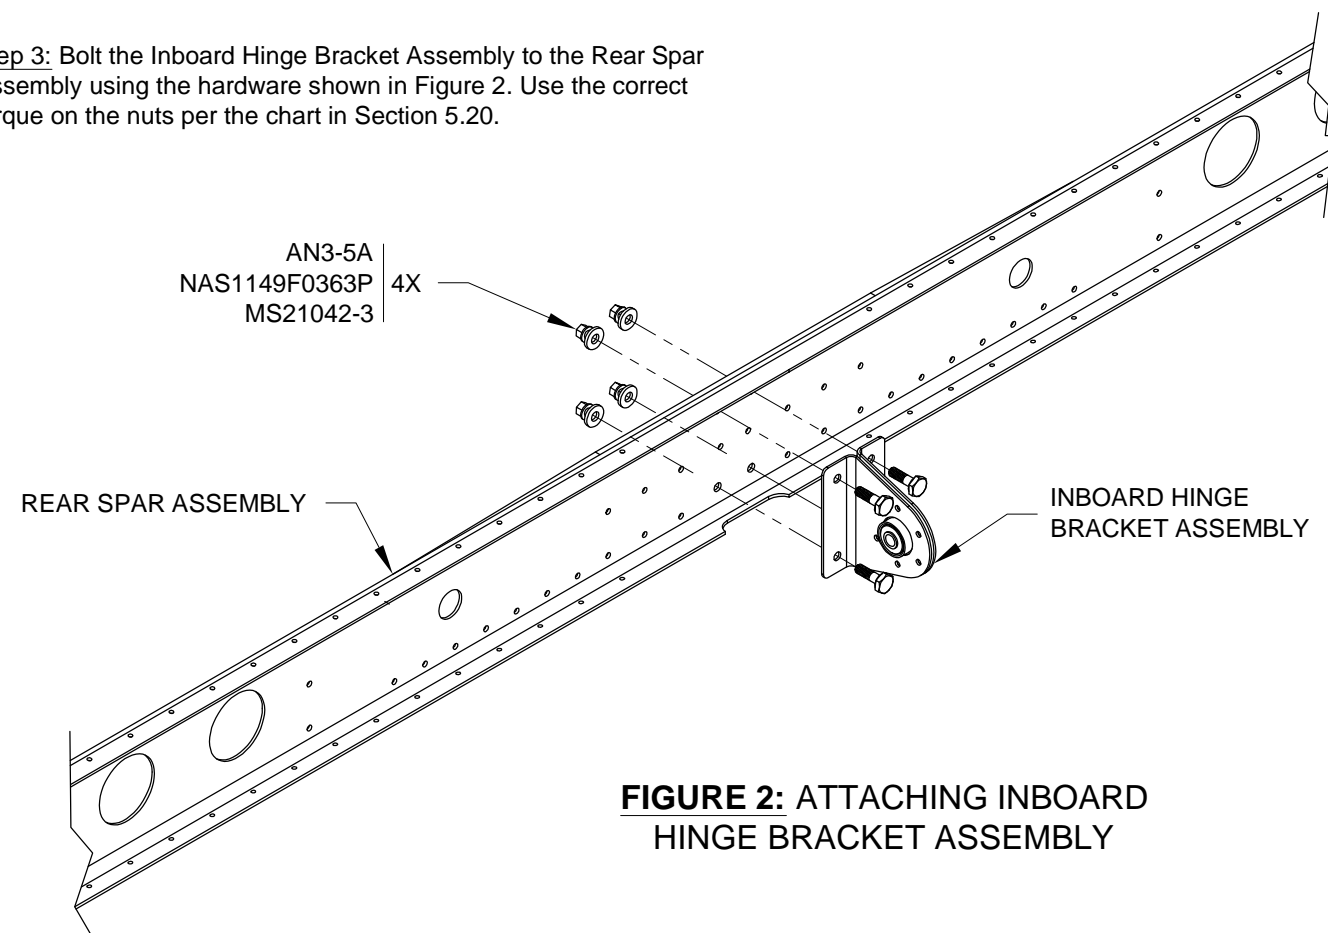

FIGURE 2: ATTACHING INBOARD HINGE BRACKET ASSEMBLY
Step 3: Bolt the Inboard Hinge Bracket Assembly to the Rear Spar Assembly using the hardware shown in Figure 2. Use the correct torque on the nuts per the chart in Section 5.20.